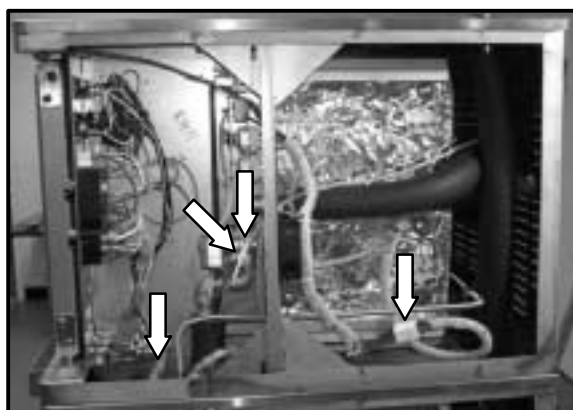

Figure 18
10. Disconnect the electrical wire harnesses (J1, J3, J7, and J8) that connect the upper oven section to the oven base section. See Figure 18. Mark connections prior to disconnecting for ease of re-assembly.